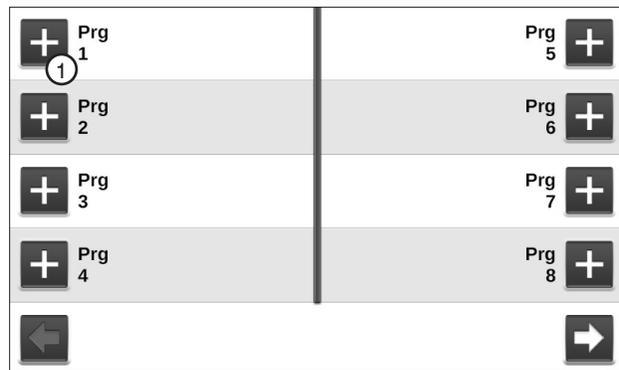

Figure 144-1 Sector Programs Screen
1. Push **Menu**, **Programs** and **Sector Programs** to view the Sector Programs screen. Refer to Figure 144-1.